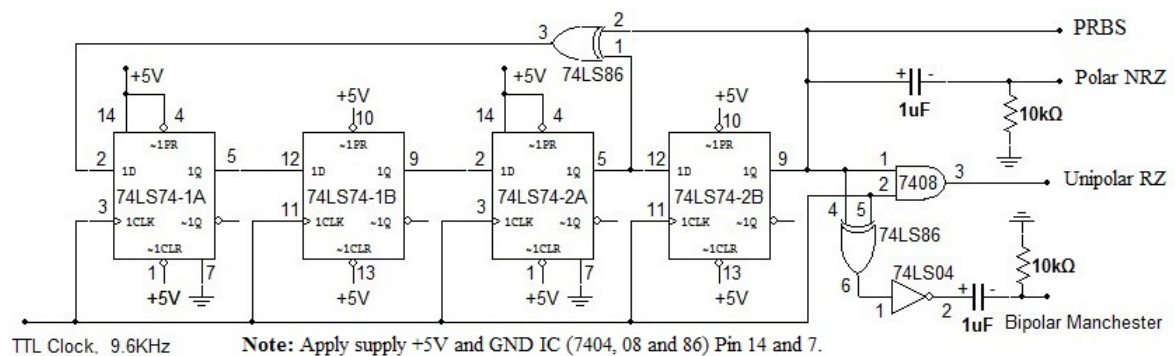

Figure 1: Generation of Line Codes
1. Connect the circuit as given in Figure 1.